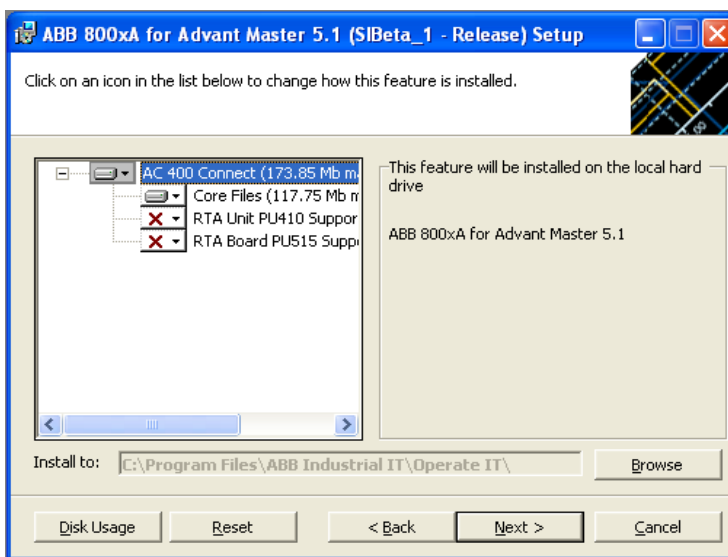

Figure 30. Select Components Dialog Box for 800xA for Advant Master
- c. **Select Components dialog box:** Select which features to install (Figure 30). Use this dialog box to select the RTA Board Support.